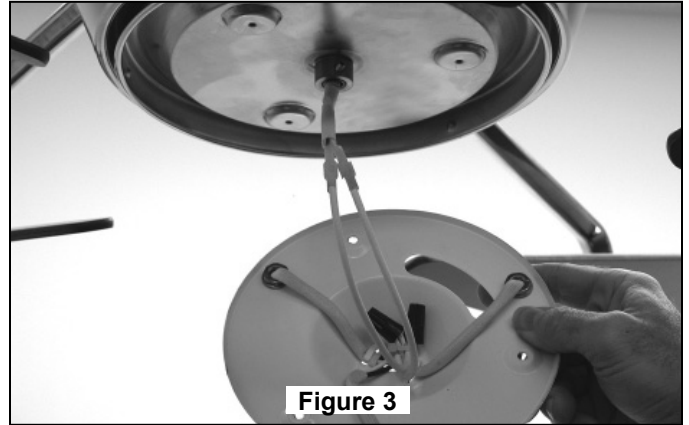

Figure 3
6. Position the wood blade with the threaded posts showing through the holes of the blade arm. With a $\frac{3}{8}$ " ratchet wrench, tighten locking hex-nuts and flat washers. Do not overtighten. (Figure 3)
4. Carefully lift the fan and seat the downrod/hanger ball assembly on the hanger bracket that was just attached to the ceiling joist. Be sure the groove in the ball is lined up with tab on the hanger bracket. (Figure 3)
5. Attach the safety cable to ceiling support cable. Slide cable clamp onto safety cable (from fan). Place the end of cable through the loop of ceiling support cable. Pull as much cable through loop as possible. Feed end of cable into clamp hole and firmly tighten screw (Figure 3). Cut off excess safety cable.
- Connect wires as indicated: (Figure 3)
1. Operating & Using Remote Transmitter (Figure 3): Install 9 volt battery (If not using for long periods of time, remove battery to prevent damage to transmitter). Store the transmitter away from excess heat or humidity.
3. Securely attach plugs from motor to sockets on Downlight Socket Plate Assembly (Figure 3)